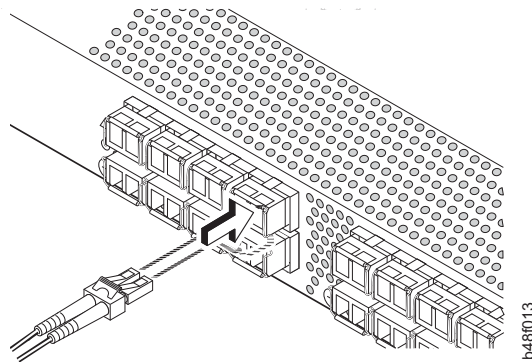

Figure 10. Installing a cable
3. Orient a cable connector so that the key (the ridge on one side of the connector) aligns with the slot in the transceiver (see Figure 10). Then, insert the cable into the transceiver until the latching mechanism clicks.